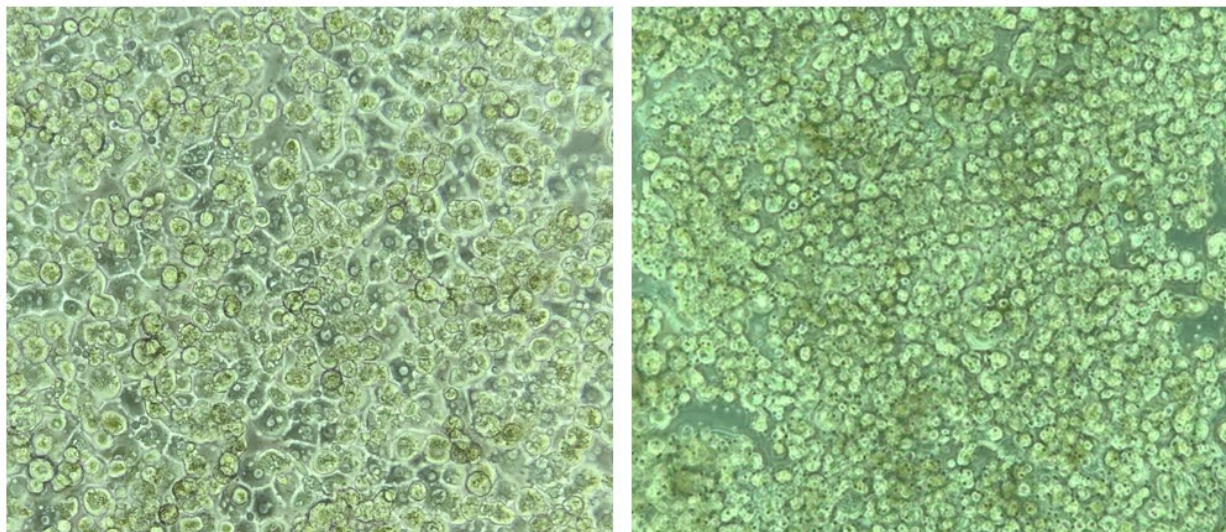

Figure 14. Left: example of appropriate attachment. Right: example of poor attachment.
14. Incubate Chip-Arrays in the AVA at 37°C for 4 hours. See Figure 14. for examples of attachment.